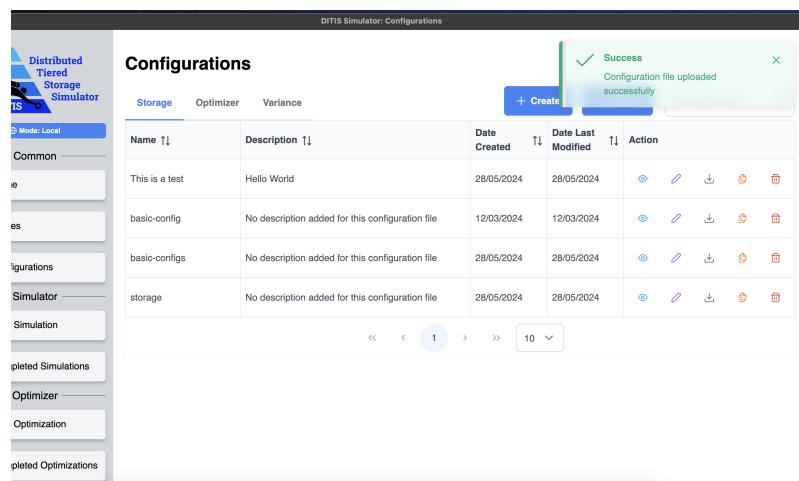

Figure 53: Upload Success
4. On successful upload of a configuration file a toast will be displayed as shown in Figure 53